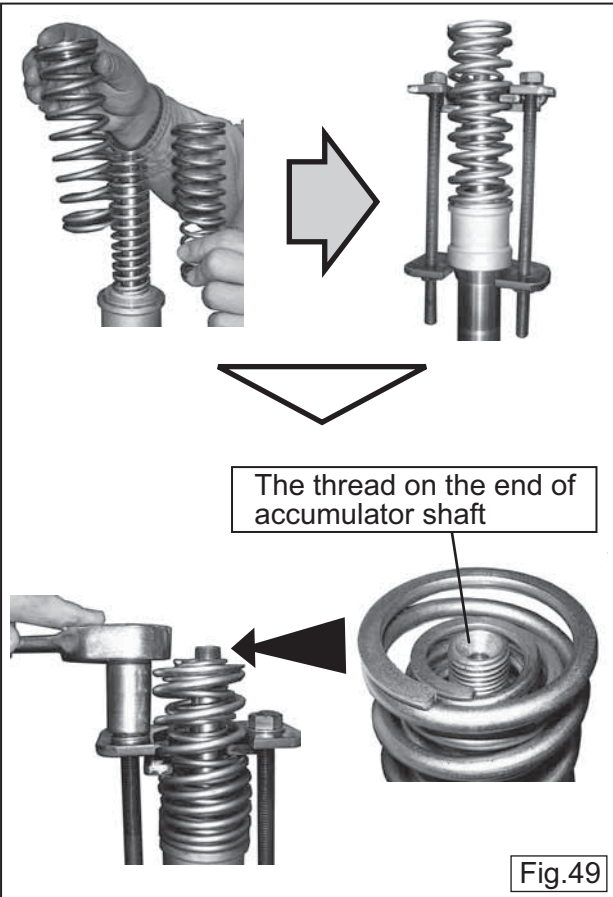

Fig.48
c. Degrease and clean the thread on the end of accumulator shaft, then apply 2 to 3 drops of Loctite #638. (Fig. 48)